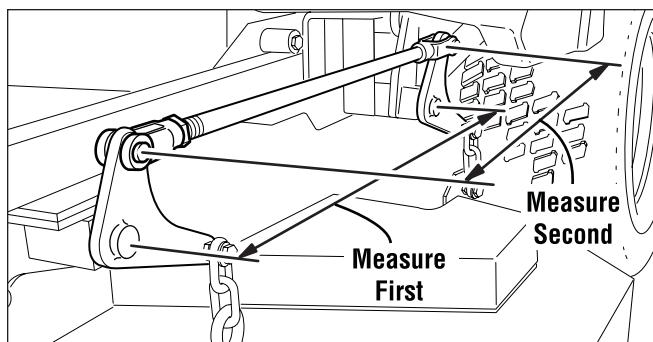

Figure 36. Check Lift Rod Timing
- To check the lift rod timing, measure and record the distance between the lift pivots and the rod pivots. Repeat for other side of unit. See Figure 36.